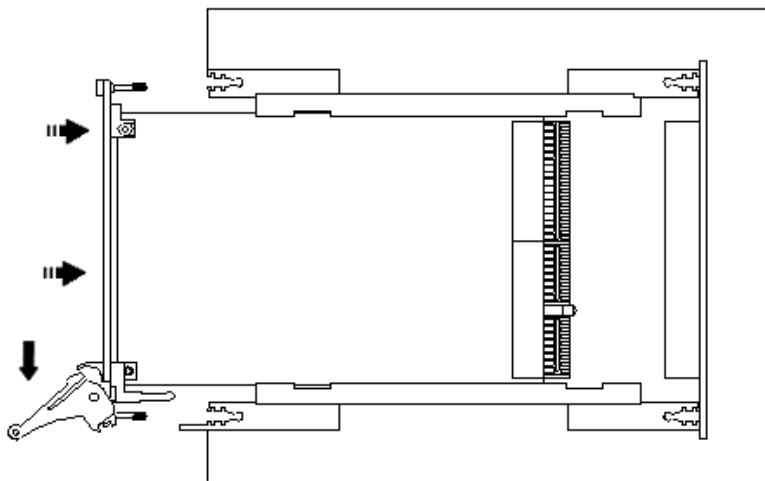

Figure 3-2: Ejector handles position during module insertion
4. Carefully slide the PXI board to the rear of the chassis, make sure that the ejector handles are pushed **out** (as shown in Figure 3-2).